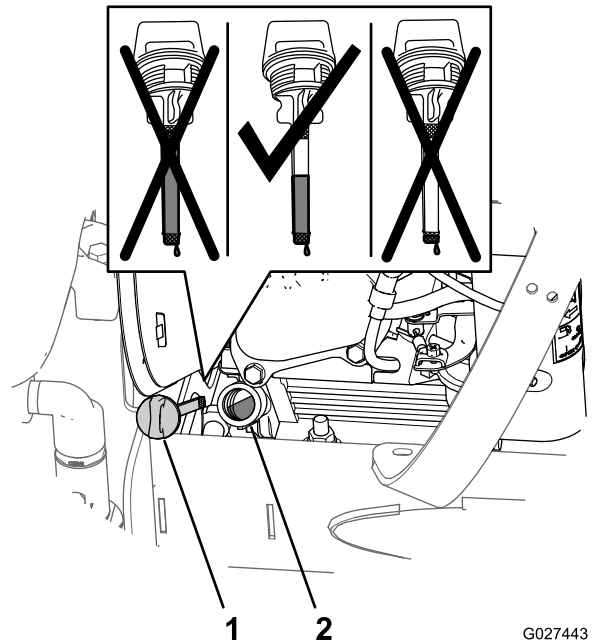

Figure 61
7. Remove the dipstick from the filler neck of the engine and wipe clean the dipstick with a rag (Figure 61).
8. Slowly pour 1.1 L (1.2 US qt) of the specified oil into the crank case of the engine through the filler neck (Figure 61).
- Remove the dipstick from the filler neck and look at the oil level in the dipstick (Figure 61).
Note: The engine oil level must cover between the hatch marked areas on the dipstick (Figure 61).
- Insert the dipstick into the filler neck and tighten the dipstick hand tight (Figure 61).